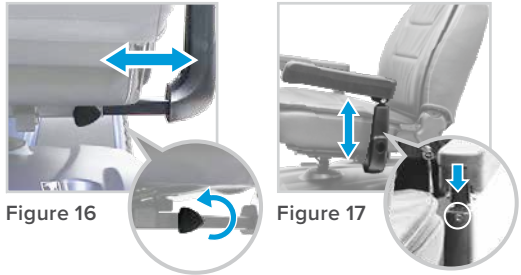

Figure 16
- **Width:** Loosen the thumbscrews as picture to adjust the width, tighten again to lock at a desired position. (Figure 16)